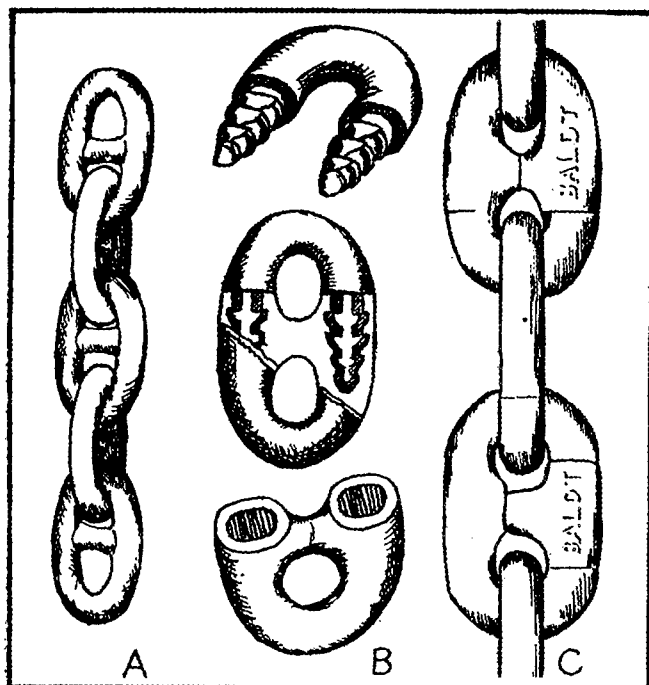
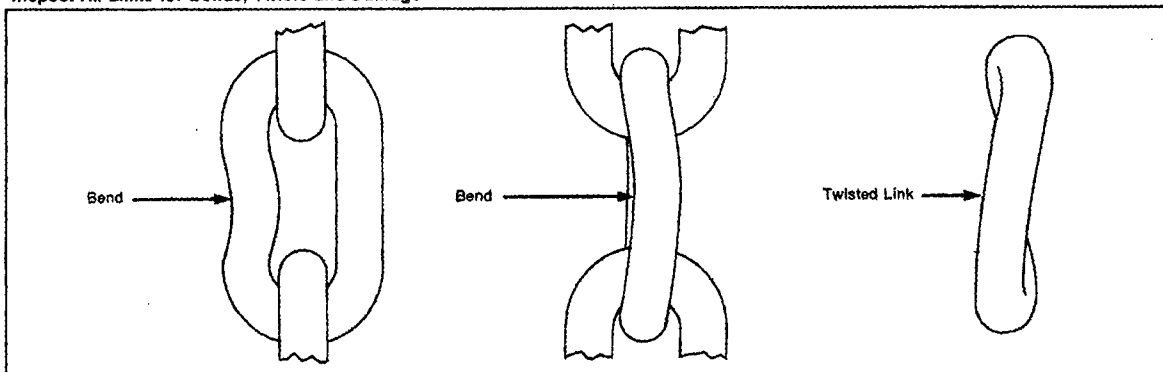

Fig. 2-23 A) Stud-link chain. B) Di-Lok Link BEFORE AND AFTER JOINING. C) Di-Lok Chain JOINED WITH DETACHABLE LINK.
Fig. 2-24 Deformed chain links
1. General. Aids to Navigation vessels use open link and stud link chain. Alloy, sling and tie-down chains are also open link. Open link chain is any chain that does not have an obstruction through the link (See **Figure 2-23**). The major differences between buoy chain and alloy chain are the steel and the shape of the links. Buoy chain is made from carbon steel grade 1010 or better (basically a low cost bendable steel). Alloy chain is made from alloy steels, usually 4600 or 8600 grades. These have much higher breaking strengths than carbon steels. The carbon steels are used for buoy chain because the strength is adequate for mooring buoys and because of its low cost. Buoy chain shall not be used in slings or to secure deck loads.
- a. A stud link chain can be of two different styles; stud link or die lock (See **Figure 2-23**). Stud link chain, because it has a higher breaking strength than buoy chain, is also used for mooring Large Navigational Buoys. Open link chain can deform or stretch when under heavy strain, as in breaking out an anchor or sinker. The open link chain will deform into a shape known as a peanut (See **Figure 2-24**). If a peanut-shaped link were hauled into a wildcat, it would not fit. The stud in stud link type chain prevents this peanut shape by keeping the barrels a given distance apart. Stud link chains fail without deforming a significant amount. Stud link chains are made of alloy steels usually grade 8600 or better. Use stud link chain for anchoring or mooring chains, where they will be lifted using a wildcat.
- d. Integral stud link chain is made by forging one end of the bar stock over nearly 90 degrees, then bending the rest of the stock around this stud to form a link (See **Figure 2-23**). In this way the stud is part of the link itself and will not fall out.
5. Die Lock Chain. Die lock chain is made entirely by forging; there is no welding involved. It was developed by the U. S. Navy to be a chain in which the stud could never fall out. The chain is made from two pieces of bar (See **Figure 2-23**). The larger of the pieces is forged into a U shape. It is forged again to create tapered holes in each end and the excess material is shaped into a stud. The shorter bar is also forged into a U shape and then forged so its ends are tapered to mate with the first piece. The two U shapes are brought together and forged making the female section grasp the male.